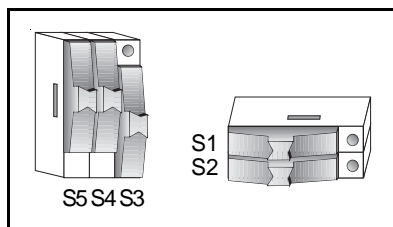

Figure 4. Differential Switch Configuration
- For differential operation, connect differential analog channel 0 to the temperature sensor by switching S5 and S4 to the up position, as shown in Figure 4.